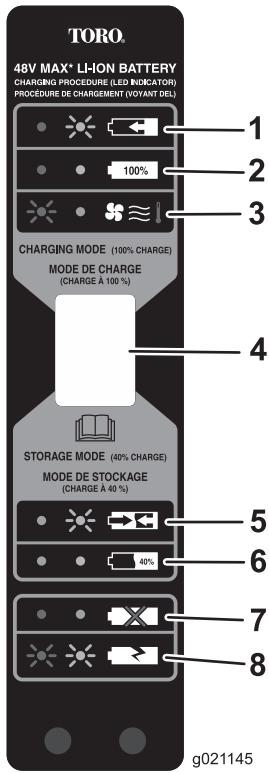

Figure 8
5. Refer to Figure 8 to interpret the LED indicators on the battery charger.
Use storage mode (Figure 8) when the battery will not be used for 1 month or longer.
4. When the battery is ready for storage (Figure 8, item 6.), remove the battery from the charger.